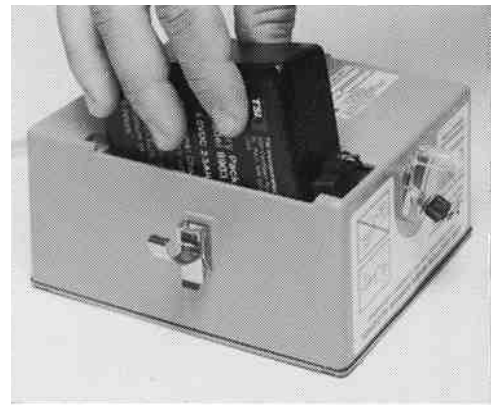

Figure I-7. Installing the battery pack
- Step 3.** Insert the battery pack into the battery compartment in the orientation shown (fig. I-7).